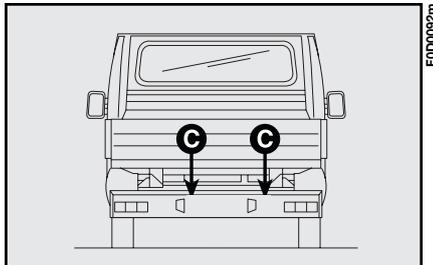

fig. 3
- unscrew the two bolts **C**-fig. 3 on the bumper internal side (chassis cab/truck versions);